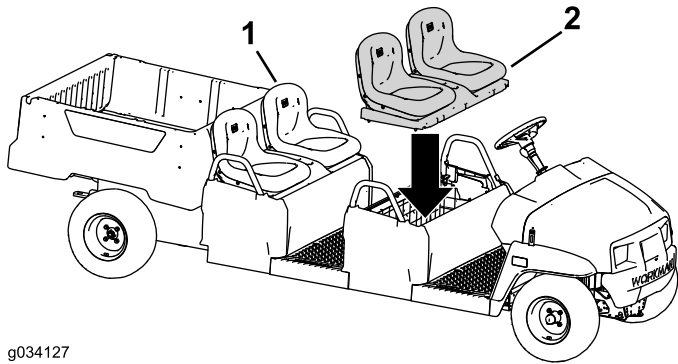

Figure 100
2. Install the original seat assembly to the rear seat row (Figure 100).
3. Install the seat assembly to the front seat row (Figure 100).